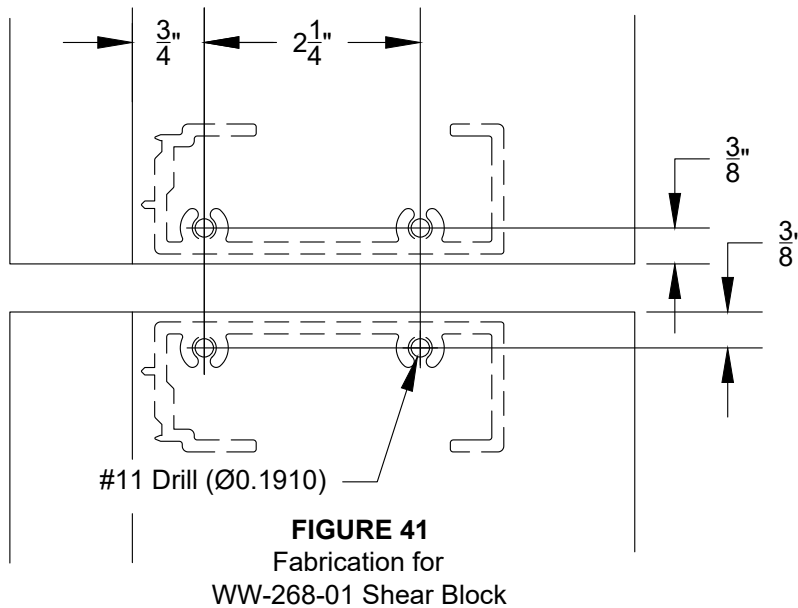

**FIGURE 40**
- 3.24 When using the WW-427 & WW-428, horizontals for the expansion horizontal connection fabricate top and bottom of mullion as shown in FIGURE 39. If using WW-527 & WW-528 fabricate per FIGURE 40.